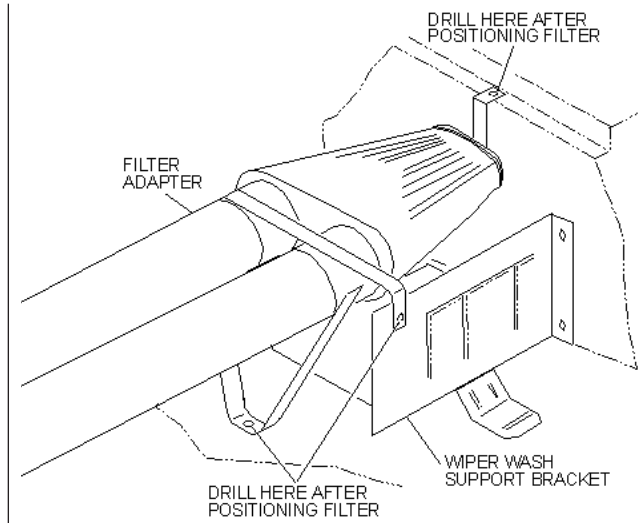

fig. 1
- 6) Before you mark and drill any holes, attach the intake hoses to the filter adapter and position the complete assembly (shown in fig. 1.). Drill three 5/16" holes and secure with provided hardware (Make sure you have clearance for the hood hang). Cut and secure vent hose to valve cover fitting.